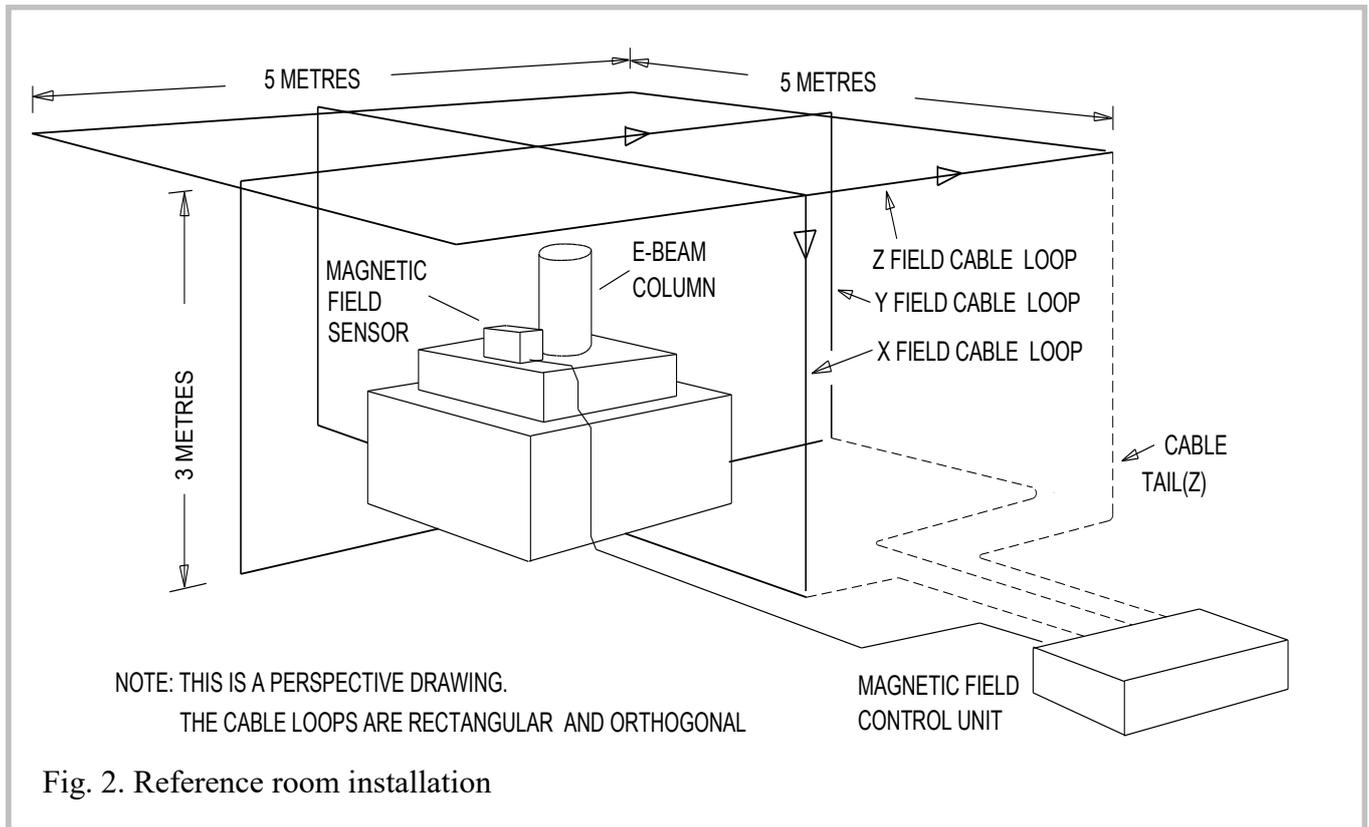

Fig. 2. Reference room installation
To specify the SC22 performance more rigorously, we use a reference room cable installation. This is shown in Fig. 2. The electron beam column is centred in the 3m x 5m X and Y loops (which cross over above and below the column) and the 5m x 5m Z loop. The SC22 specifications on page 6 apply to this reference room installation.
Dynamic range (X & Y) ^(note:1)	60 mG (6 μ T) pk-pk (installation Fig. 2)
Dynamic range (Z) ^(note:1)	30 mG (3 μ T) pk-pk (installation Fig. 2)